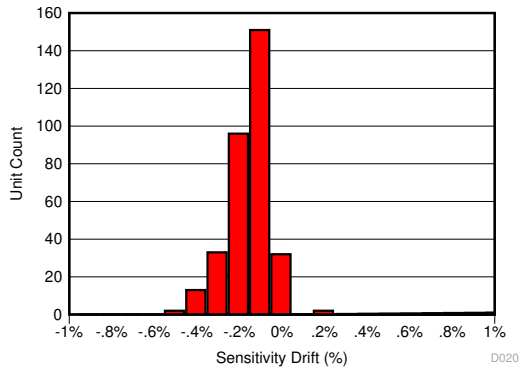
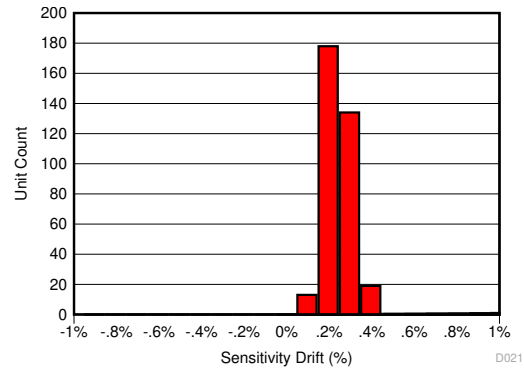
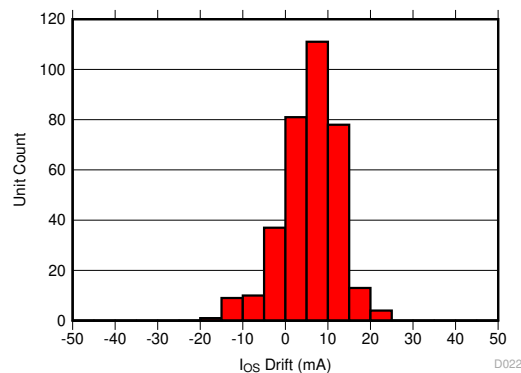

Figure 8-6. Sensitivity Error After 130°C, 85% RH HAST
Figure 8-7. Sensitivity Error Drift After AEC-Q100 High Temperature Operating Life Stress Test
Figure 8-8. Input-Referred Offset Drift After AEC-Q100 High Temperature Operating Life Stress Test
The same compensation techniques used in the TMCS1101-Q1 to reduce temperature drift also greatly reduce lifetime drift due to aging, stress, and environmental conditions. Typical magnetic sensors suffer from up to 2% to 3% of sensitivity drift due to aging at high operating temperatures. The TMCS1101-Q1 has greatly improved lifetime drift, as defined in the Electrical Characteristics for total sensitivity error measured after the worst case stress test during a three lot AEC-Q100 qualification. All other stress tests prescribed by an AEC-Q100 qualification caused lower than the specified sensitivity error, and are within the bounds specified within the Electrical Characteristics table. Figure 8-6 shows the total sensitivity error after the worst-case stress test, a Highly Accelerated Stress Test (HAST) at 130°C and 85% relative humidity (RH), while Figure 8-7 and Figure 8-8 show the sensitivity and offset error drift after a 1000 hour, 125°C high temperature operating life stress test as specified by AEC-Q100. This test mimics typical device lifetime operation, and shows the likely device performance variation due to aging is vastly improved compared to typical magnetic sensors.